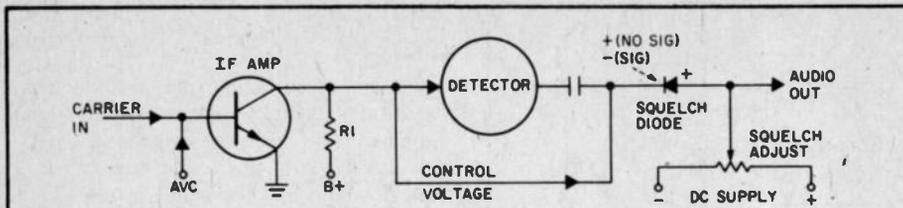

Fig. 3. Transistorized set depends on change in control voltage from IF amp (when carrier is present) to forward bias squelch diode, turning audio on.
**Transistorized, Too!** The solid-state version of a squelch circuit is shown in Fig. 3. The idea in this circuit is based on the forward and reverse characteristics of a silicon diode we call the squelch diode. When the diode is biased in the reverse direction, it presents an extremely high internal resistance and blocks the flow of audio between the detector and following audio stages. Consider, first, how the receiver is squelched during a no-signal period. Note that the squelch diode in Fig. 3 is receiving two voltages (besides the audio from the detector). The one from the left is control voltage tapped from the collector of an IF amplifier stage. This transistor not only operates as an IF amplifier, but also serves to drive